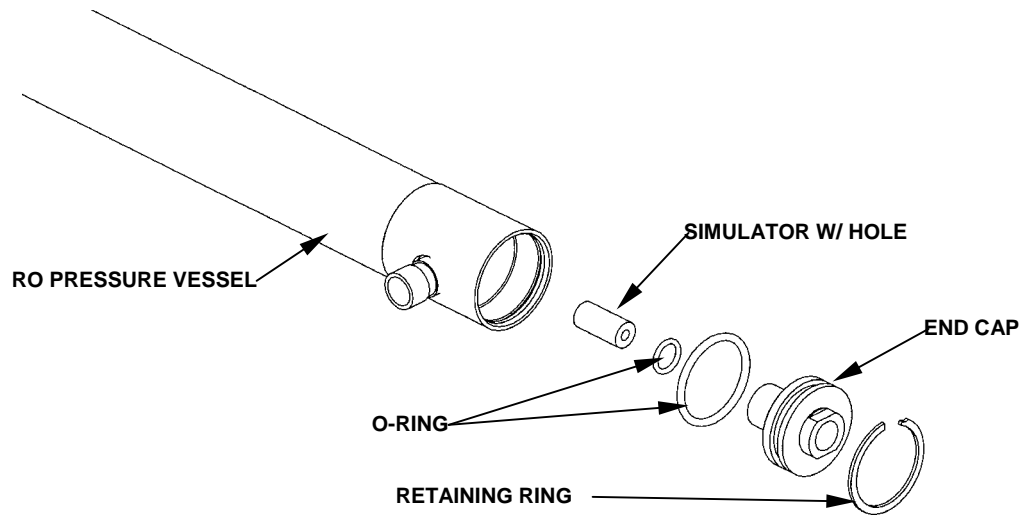

Figure 9. Pressure Vessel 7 With Simulator.
1. Only the pressure vessel number 7 contains the simulator with a hole in it. See Figure 9.